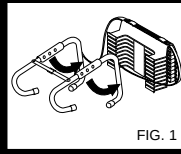

FIG. 1
2. Open attachment hooks and extend center support. (see Fig. 1)